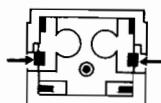

Fig. 10
2. Push the claw of the button from the back of front panel in the direction of the arrow as in **Fig. 10** to shift it out toward the front panel.